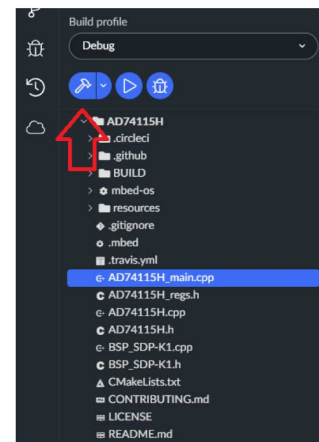

Figure 16. Compile MBED Project
8. Compile your project (see Figure 16).